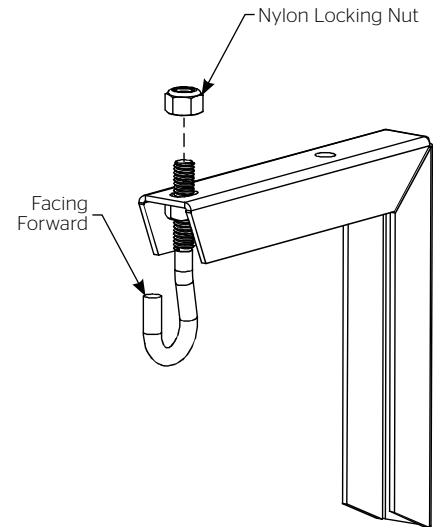

Figure 7
2. Insert open eye bolt through top hole of metal bracket. Tighten down nylon locking nut on top of bracket. (See Figure 7)